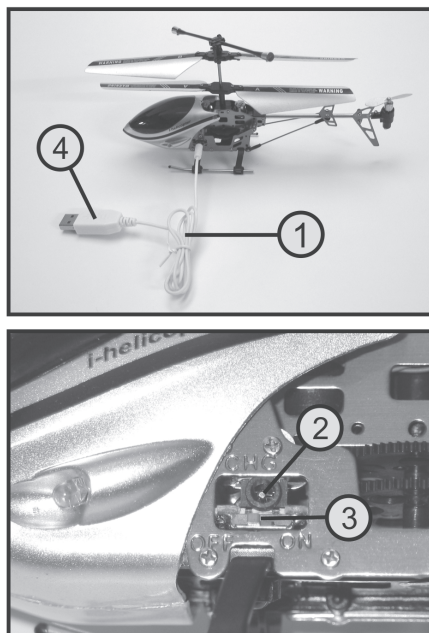

Figure 3
To switch on the model helicopter, slide the helicopter function switch (see figure 3, item 3) from the front position “OFF” to the rear position “ON”.